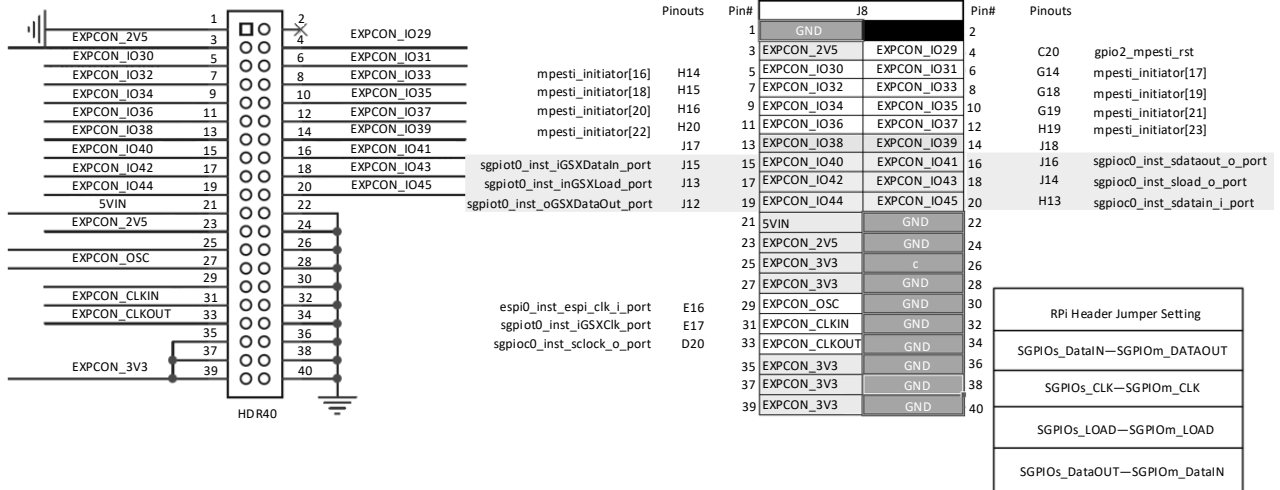

Figure 6.18. Versa Header(J8) Jumper Settings
1. Connect the jumpers for RPi Header, as shown in Figure 6.18.